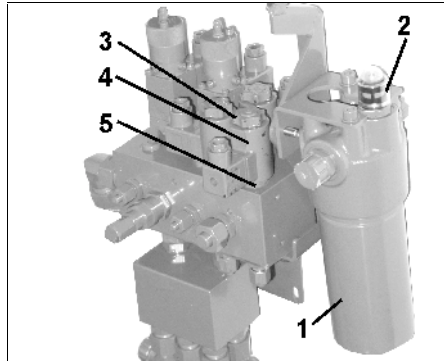

Fig. 58
During operation the function of the hydraulic oil filter (Fig. 58/1) can be checked on the control block. Indication in the check window (Fig. 58/2):
- Unscrew solenoid cap (Fig. 58/3)
- Remove magnet coil (Fig. 58/4)
- Screw out the valve rod (Fig. 58/5) with valve seat and clean with compressed air or hydraulic oil.